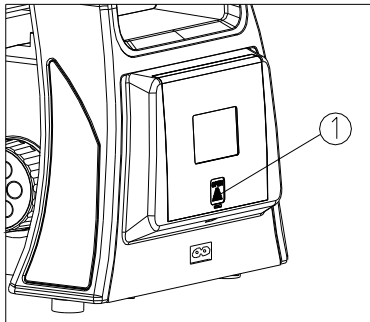

Fig.18
When the microscope is not in use, the power cord can be placed in the storage box. Press the position (1) of the storage box cover with thumb. When you hear a click, push up and put the power cord and wrench into the storage box, and then close the back cover. (See Fig.18, 19)